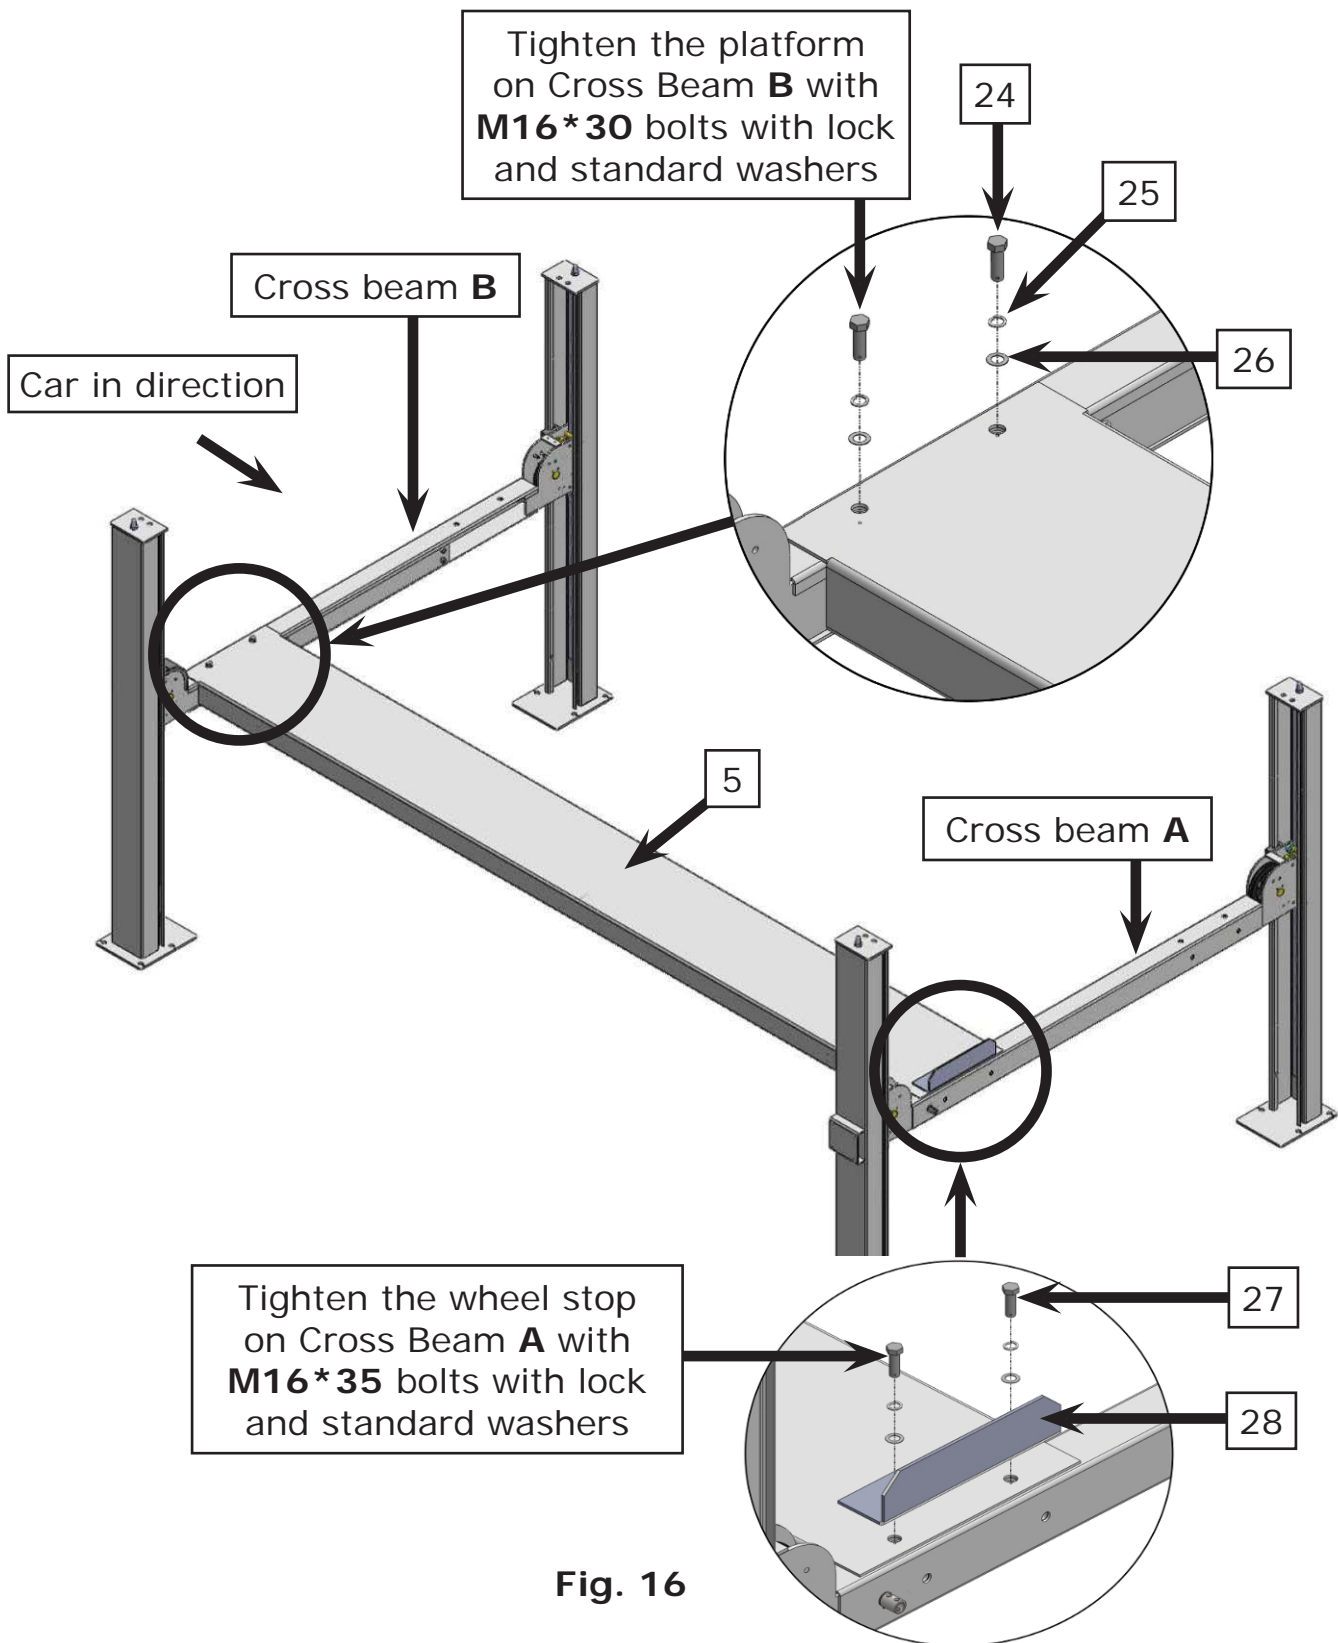

Fig. 16
1. Install the power side platform on the cross beams by a fork lift or other lifting device, offset the cross beams (**spread opposite corners**) to the outside until the pulleys on both platforms can rest into the cross beams' slots (**See Fig.15**), Install the power side platform and install the bolts (**See Fig.16**). Do not tighten bolts until the offside platform is installed.
Note: The bolts for the wheel stop plates are longer. Pay attention when choosing the bolts (**See Fig.16**)